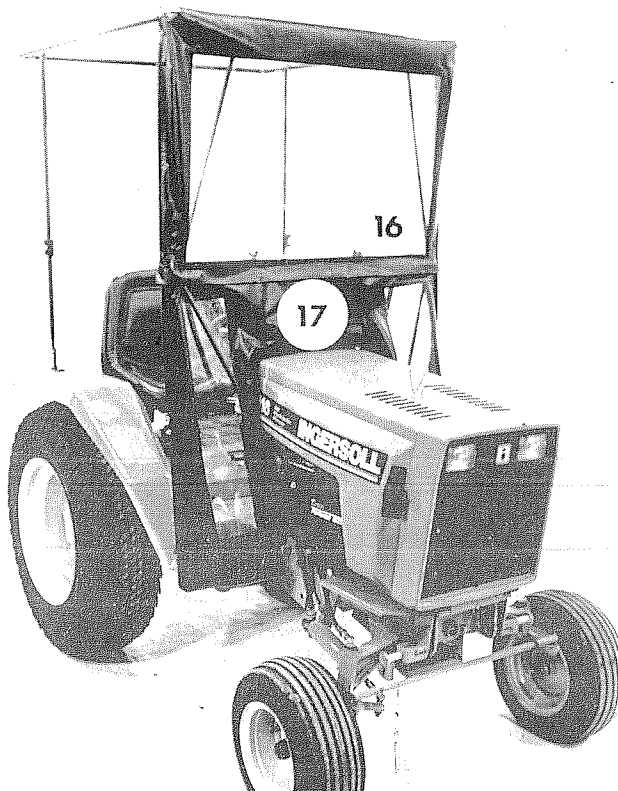

FIGURE 7A
STEP 7; SEE FIGURE 7A & 7B:
- A. Snap the top corners of the WINDSHIELD (16) around the top frame. Zip the FRONT PANEL VINYL (17) to the windshield. Fit the vinyl around the ends of the step plate and the foot pocket guard.